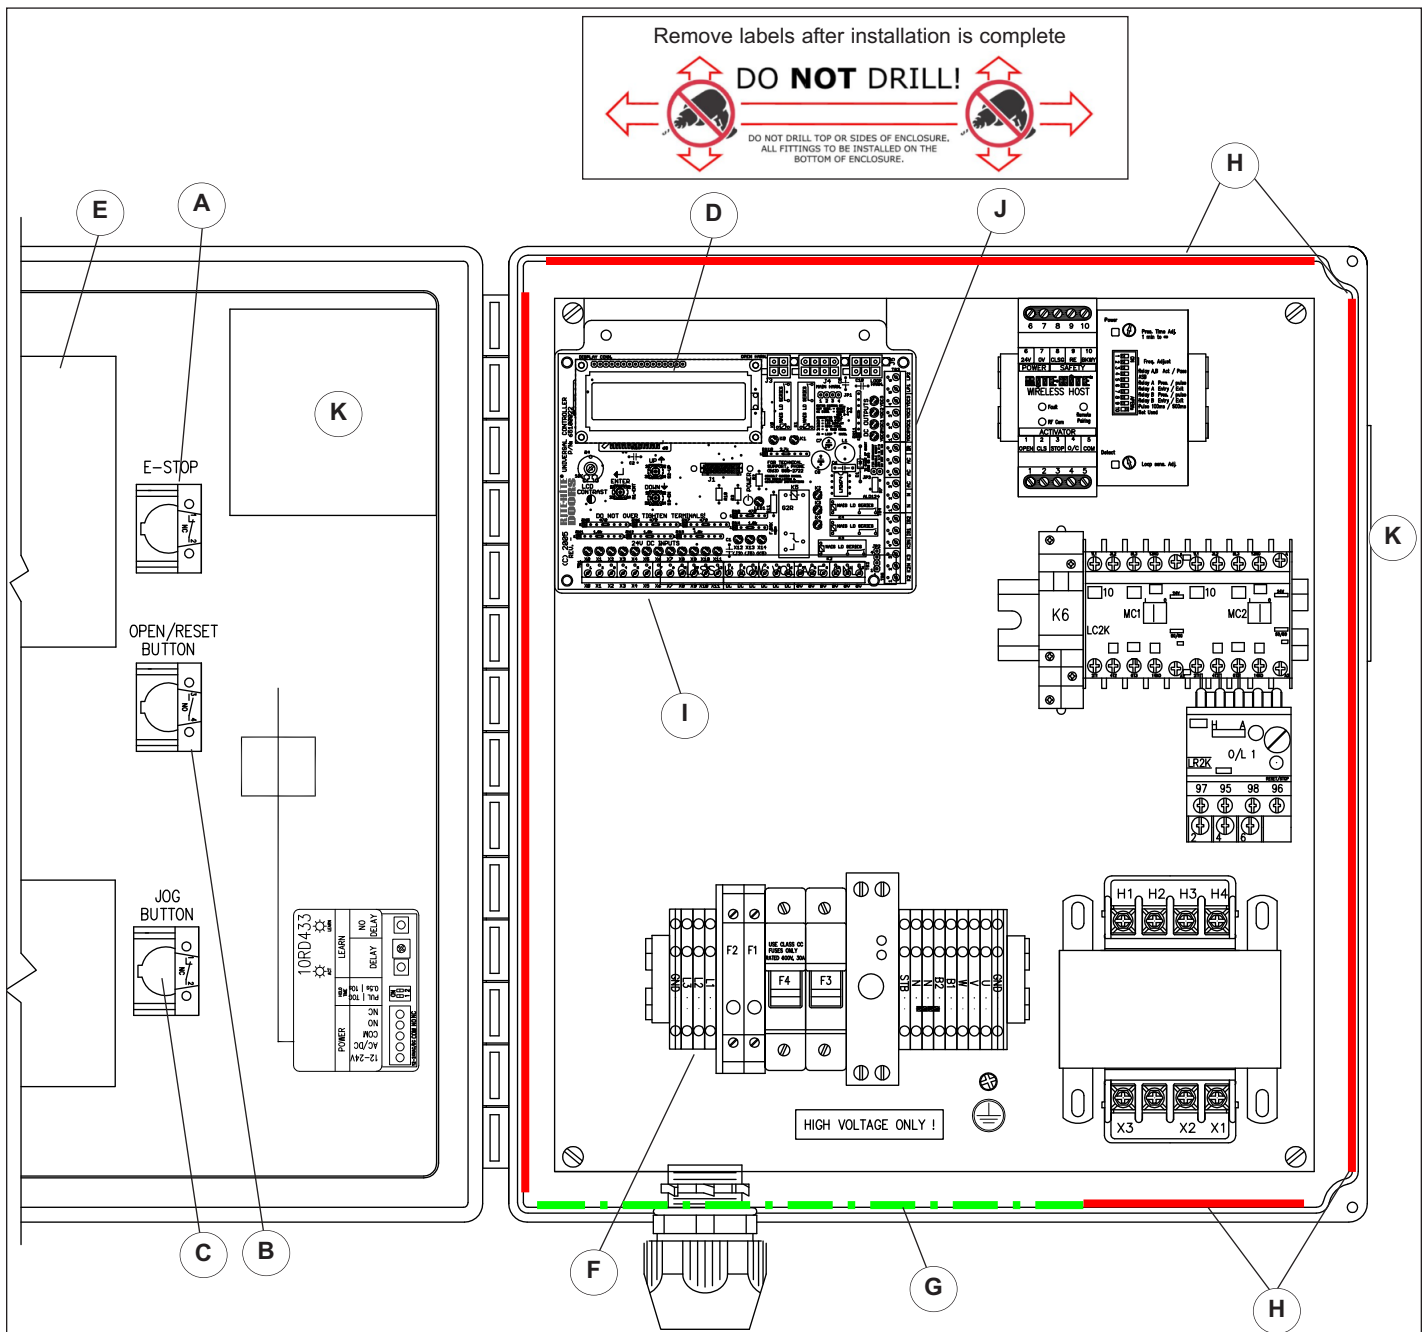

Figure 20.1
Local electrical codes may require the use of a junction box and rigid conduit. Make sure to route all conduit through the bottom of the control station, Figure 20.1. The door frame is grounded via the motor ground wire provided.
2. Mount the control box on a wall adjacent to the door at approximately 54" [1372] above the floor level and a minimum of 6" [152] from door side frame. All holes drilled through the control box must be through the bottom of the box, Figure 20.1.